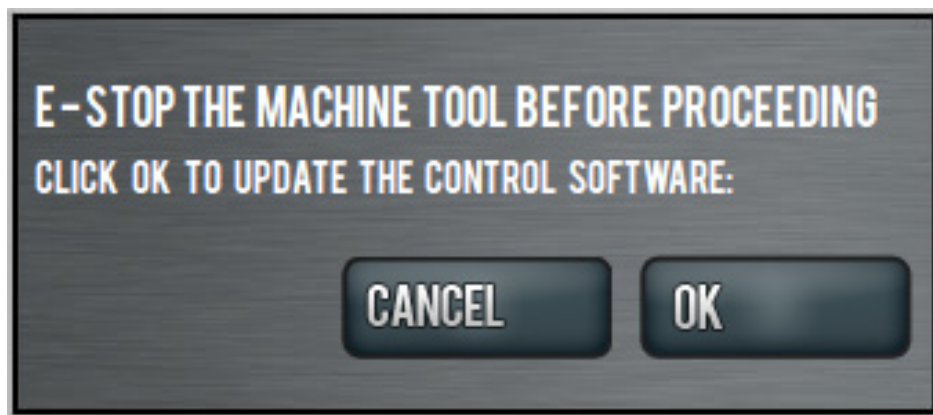

Figure 3
6. Push the E-stop button on the mill when prompted and click *OK* (see **Figure 3**).